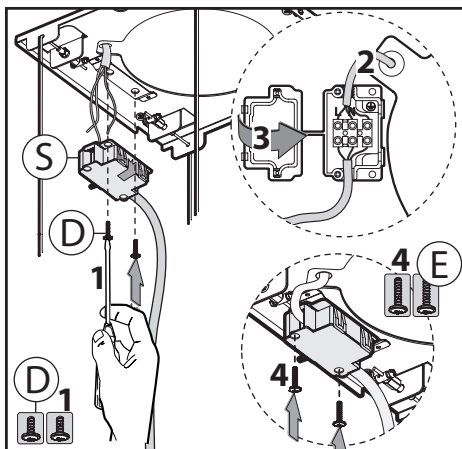

Fig.6
- Before completing the **electrical connection**, fasten the box **S** to the bracket using the 2 screws **D** figure 6 - phase 1.
- Connect to the electrical network as shown in figure 6 - phase 2.
- Close the lid of the box **S** figure 6 - phase 3, and fasten with the two screws **E** figure 6 - phase 4